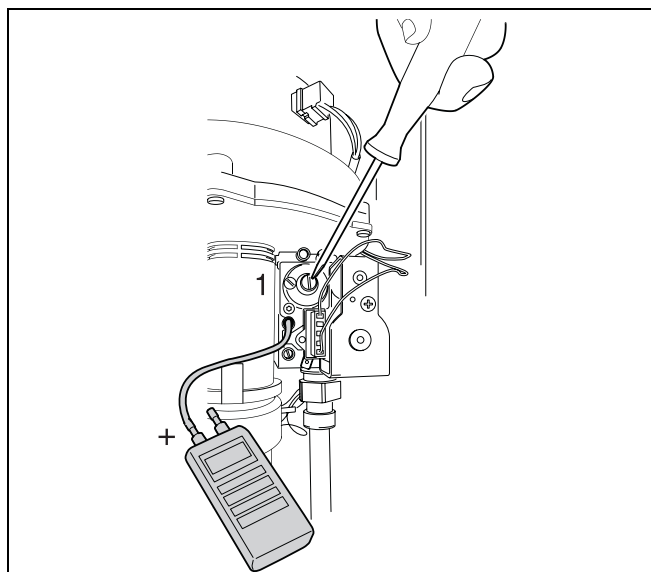

fig. 46 Adjust gas/air ratio
- Remove the safety screw with a flat head screwdriver (fig. 46, item 1).